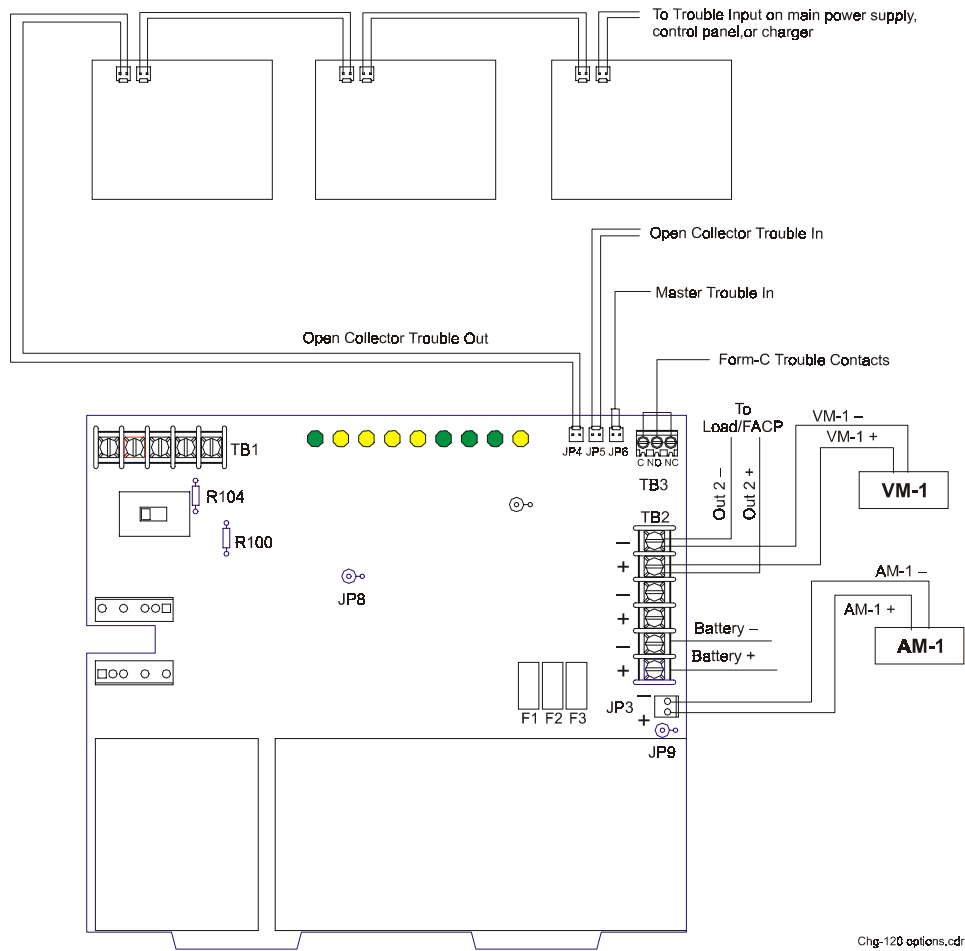

Figure 15 Connections for Optional Devices
Figure 15 shows charger trouble and Form-C relay connections:
1. Cut jumper JP9 on the charger (Figure 15).
3. Connect the AM-1 harness to JP3 on the charger (Figure 15)—making sure to observe proper polarity.
2. Connect the positive lead to TB2 Out 1 (+). See Figure 15.
3. Connect the negative lead to TB2 Out 1 (-). See Figure 15.
1. Connect the AM-1 (Figure 15).
2. Connect the VM-1 (Figure 15).